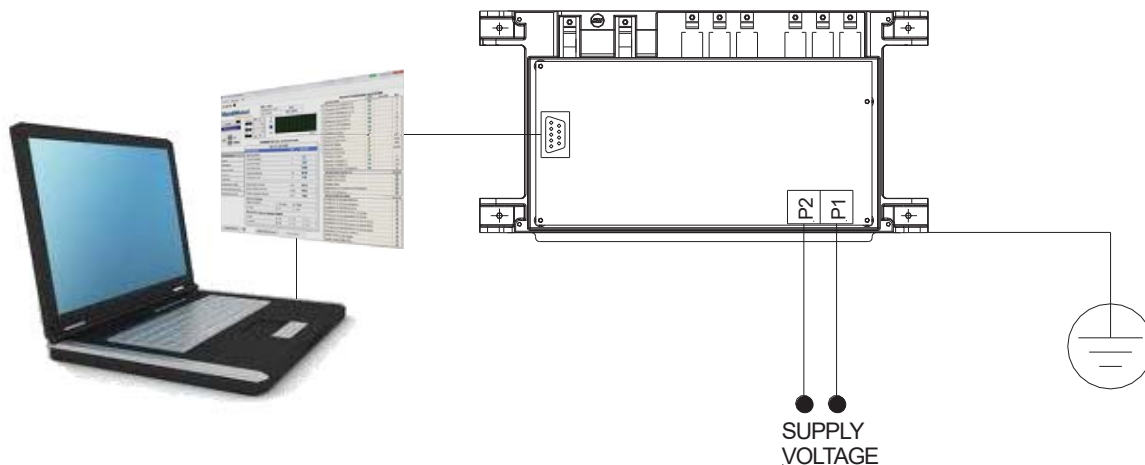

Fig. 5.2.a
Fig. 5.2.a shows the wiring diagram you will have to follow for the preliminary setup of MEC-100. You will have to perform the following actions (in the specified sequence):
**FOR THE PRELIMINARY SETUP OF MEC-100 DISCONNECT ANY CONNECTED CABLES AND POWER THE BOARD FROM A SOURCE OTHER THAN THE GENERATOR.** The only connections must be the ones shown in Fig. 5.2.a.